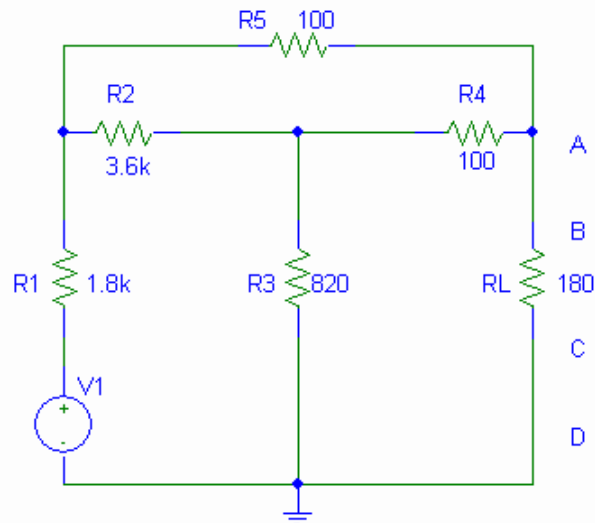

Figure 3-1
2. Construct the circuit in **Figure 3-1**. Do not turn on the supply.
1. Construct the circuit as shown in **Figure 3-1**. Do not turn on the supply